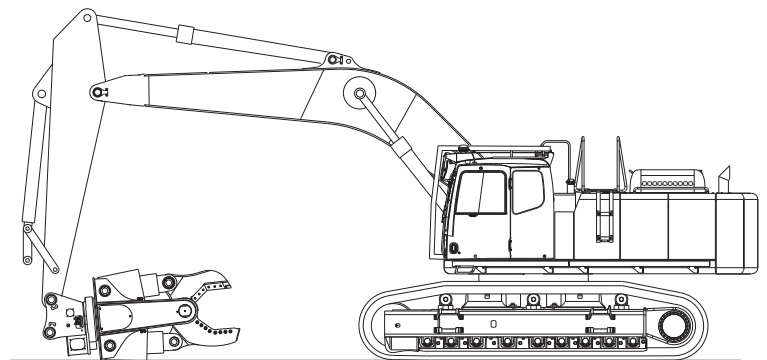

FIGURE 3-13
1. Remove the attachment from the excavator where it is mounted 3rd member according to the instructions in this chapter. Position the attachment upside-down on a firm and level surface as shown in figure 3-13.
2. Use an overhead crane with a lifting strap through the stick cylinder connection to lower the adapter bracket into place so the stick connection pin can be installed. Use the existing 3rd member bracket pin (figure 3-13).